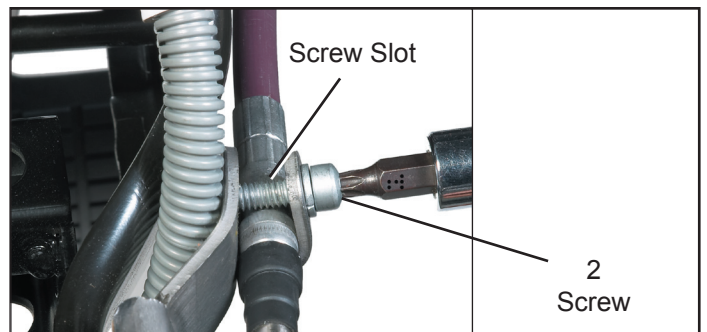

Figure 8 - Securing the Shifter Cable
4. Using a T-30 torx wrench, remove and discard the shifter cable screw(2). Refer to Figure 8.